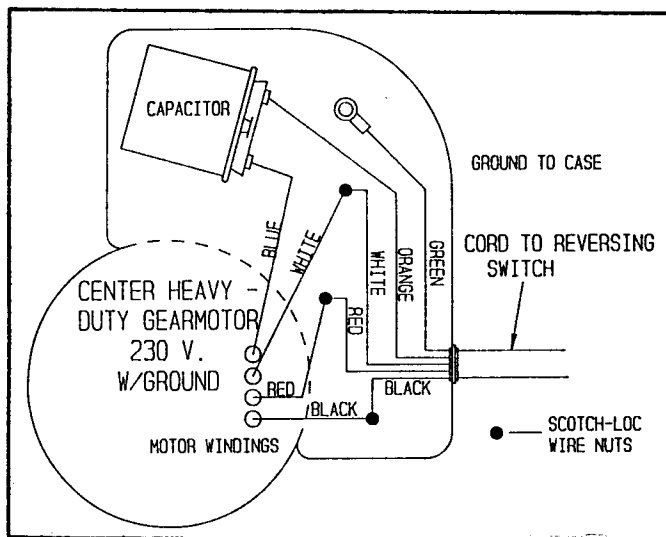

FIG. 11 - GEARMOTOR WIRING
2. Take cover off of gearmotor junction box. Place 1/2" electrical connector in hole on gearmotor junction box. Thread cord through connector. Figs. 11 & 12. Provide a drip loop in cord by motor.
3. Take female spade on orange wire from reversing switch and connect to prong on one terminal of capacitor. Take female spade on blue wire (from gearmotor) and connect to prong on opposite terminal of capacitor. Fig. 11.